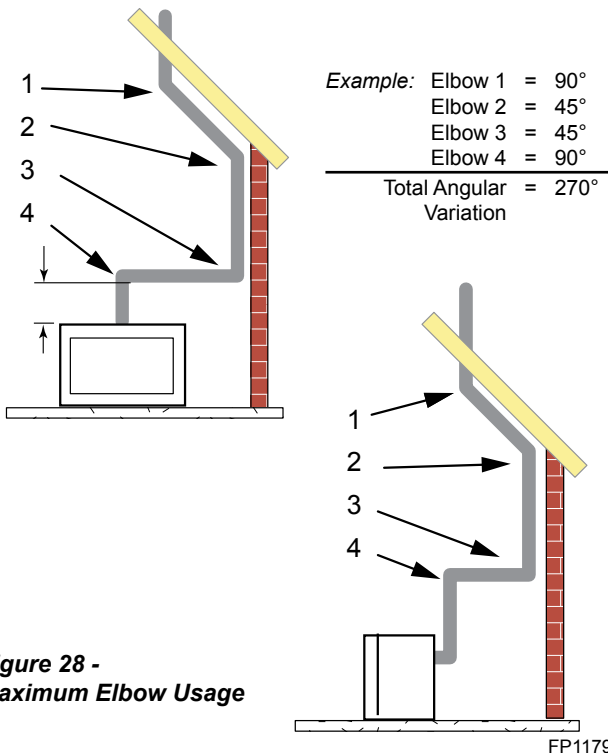

Figure 28 - Maximum Elbow Usage
- Two sets of 45°elbows offsets may be used within the vertical sections. From 0 to a maximum of 8' (2.5 m) of vent pipe can be used between elbows. *Figure 28*
- The maximum angular variation allowed in the system is 270°. *Figure 28*